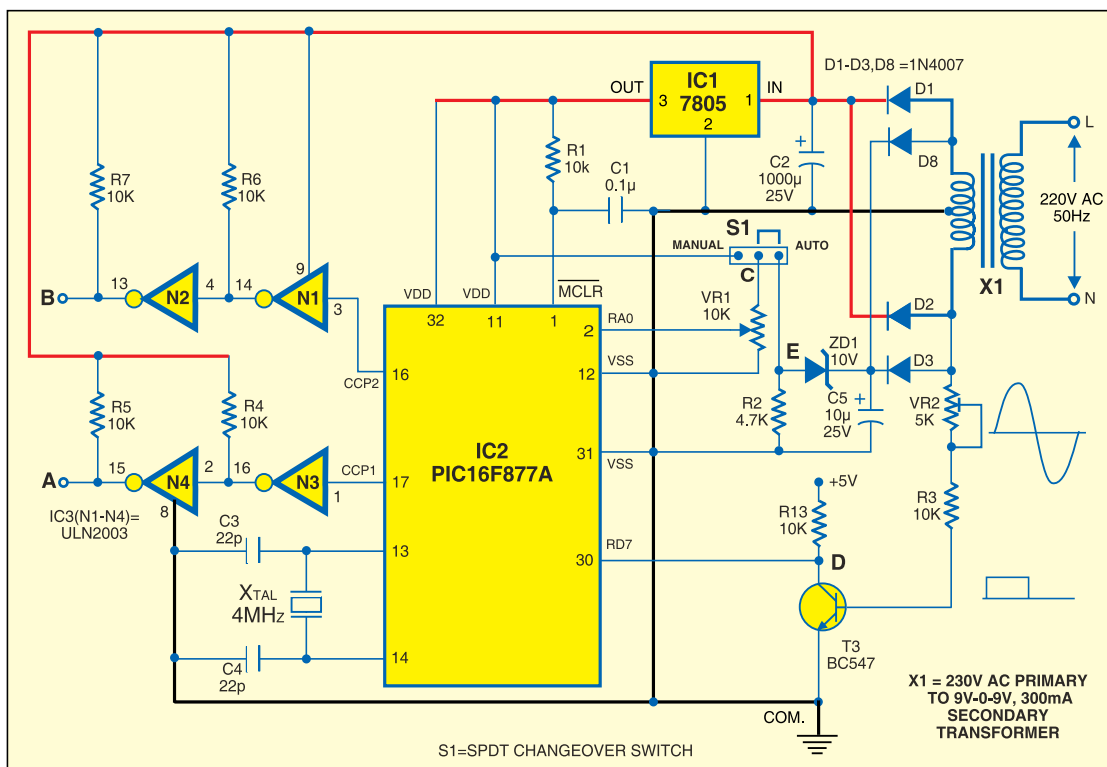
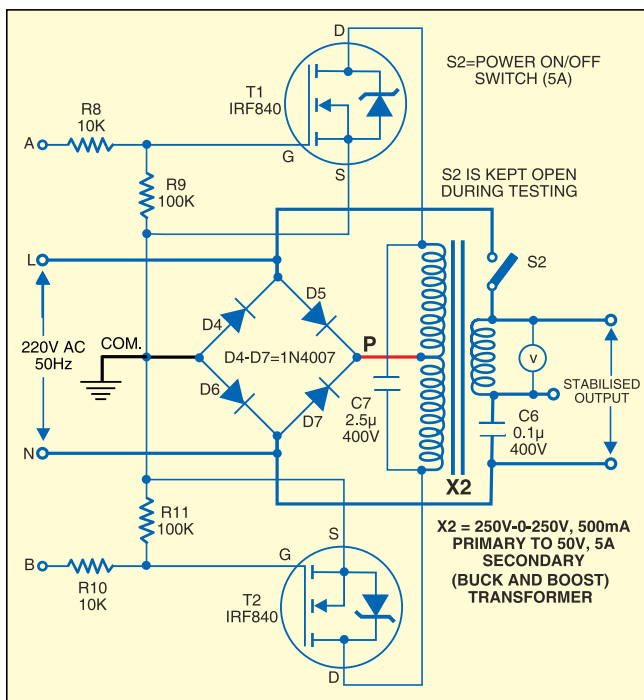
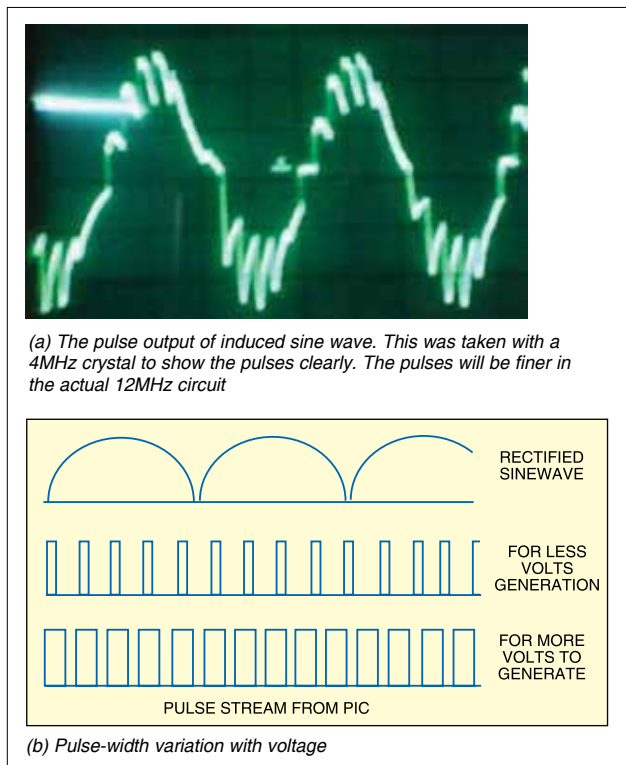

Fig. 1: Circuit of voltage stabiliser controller section
Fig. 2: Circuit of voltage stabiliser buck-boost section
Fig. 4: A typical PWM concept
Voltage stabiliser controller section. This part of the circuit is built around the PIC microcontroller (see Fig. 1). The 5V supply for the microcontroller is derived from a small iron-core mains step-down transformer having 9-0-9V, 300mA rating, two diodes (1N4007) and a 1000 μ F capacitor followed by the 7805 regulator.
The ADC input channel 0 at port-A pin 2 of IC2 is used as shown in Fig. 1. Here potentiometer VR1 is connected to +5V and ground through a jumper connection. For the purpose of testing, you can vary VR1 to adjust the voltage from 0 to 5V. The reset circuitry at pin 1 (MCLR) has capacitor C1 and resistor R1. Pin 30 (port-D bit 7) gets a signal (marked as 'D') derived
Taking pin D to 5V reverses the above sequence. After checking this part of the circuit, the circuit shown in Fig. 2 may be tested.
In manual position of input-selection switch S1 (Fig. 1), the analogue input voltage from potmeter
(point C) of the PIC in auto position (Fig. 1).
A typical PWM concept is shown in Fig. 4. The microcontroller produces pulse-widths, as required, for generating the voltage to be added or subtracted from the mains. The pulses from points A and B (refer Fig. 1) are fed to the transformer shown in Fig. 2. The secondary winding of this transformer gives the adding voltage. In this case, there is no relay switching; the buck or boost is done smoothly by changing the phase of the adding signal instantly. So it is a continuous voltage stabiliser. Depending on how much the input varies from 220V, pulse width is generated so as to adjust the output voltage by adding or subtracting from it. This is a feed-forward control.
Points marked 'COM' common points in Figs 1 and 2 are not the ground and should not be connected to the neutral line.
Pulse-drive circuit and the transformer. Fig. 2 shows the circuit to buck/boost the mains voltage using a buck-and-boost transformer. The iron-core transformer used here is the same as used in voltage stabilisers. There is no tap on the secondary winding and the primary winding is centre-tapped.
1. First, test the controller circuit (Fig. 1) for pulse-width-modulated signals at points A and B. Check changeover from A to B by applying 0V and 5V at point D.
3. Vary the potmeter in manual position of the switch. Using a CRO, you can see variation in the pulse-width (see Fig. 4).
In Fig. 1, at point E, we have included a lag circuit comprising variable resistor VR2 (5-kilo-ohm) and capacitor C5 (10 μ F). Adjust preset VR2 until the waveform is a smooth sine wave.
The secondary voltage of transformer X2 should decrease and then increase as VR1 is raised from 0V position. Then check voltage regulation after changing over to auto position in Fig. 1. Adjust VR1 to the centre position precisely. In the centre position, there will be no pulse and therefore no adding voltage in the secondary winding. So the value of the zener diode used in the rectifier circuit should be changed in order to get 0V for 220V input. A variac is useful for varying the input voltage and checking the output.
5. Activate the buck-and-boost circuit by closing stabiliser switch S2 (Fig. 2).
Place the components on the PCB as per the circuits shown in Figs 1 and 2 and solder them. Give the mains AC power supply to the circuit through a variac and observe the stabilised output by varying the variac (auto transformer).